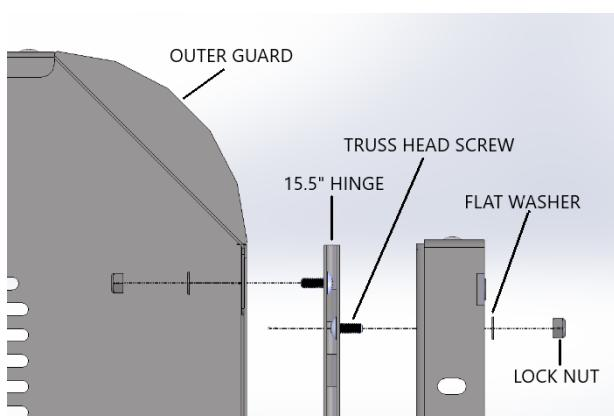

Figure 2: Exploded View of Outer Guard Assembly
- b. Fasten the Outer Bracket to the hinge using the same hardware. (Figure 2)